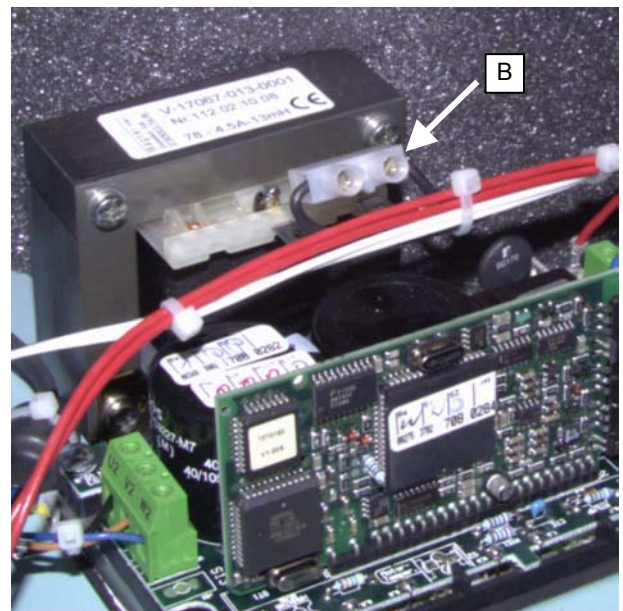

Figure 2
- Cut off both plugs and connect the ends of both cables together with a luster terminal (B), see Figure 2.